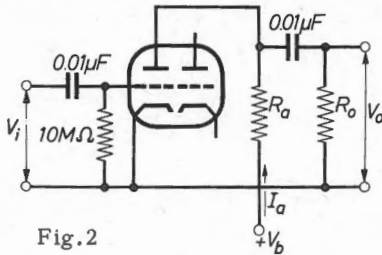

Fig. 2
A. F. amplifier Fig. 2 see page 9 Input source resistance = 100 Ω